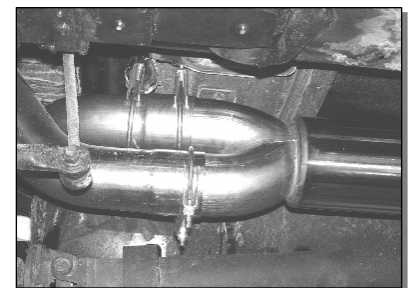

Figure 9
6. Position the **Muffler** outlets vertically. **See Figure 9.**